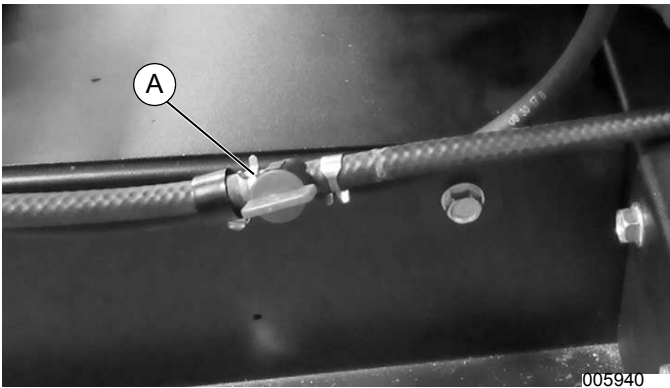

Figure 3-2. Fuel Shut-Off Valve
3. See Figure 3-2. Open fuel shut-off valve (A).